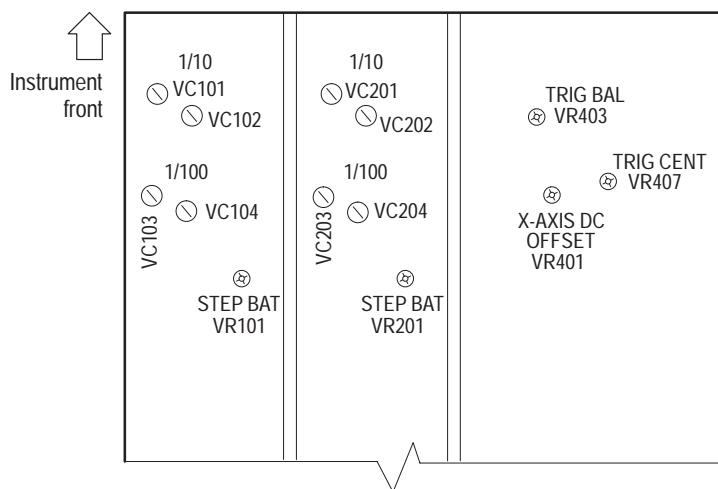

Figure 10: Main board (viewed from the instrument bottom)
2. On the oscilloscope Main board, adjust VR101 (VR201) for a minimal trace shift when switching the front panel CH 1 (CH 2) VOLTS/DIV control between 5 mV and 10 mV. See Figure 10 for the adjustment locations.
3. Adjust VC102 (VC202) to obtain an optimum waveform symmetry with minimal overshoot. See Figure 10 for the adjustment locations.
5. Readjust the generator output to produce a waveform five divisions in amplitude. Adjust VC104 (VC204) to obtain an optimum waveform symmetry with minimal overshoot. See Figure 10 for the adjustment locations.
12. Adjust VC101 (VC201) to flatten the waveform. See Figure 10 for the adjustment locations.
15. Adjust VC103 (VC203) to flatten the waveform. See Figure 10 for the adjustment locations.
5. Adjust VR401 to position the spot to the center vertical graticule line. See Figure 10 for the adjustment location.